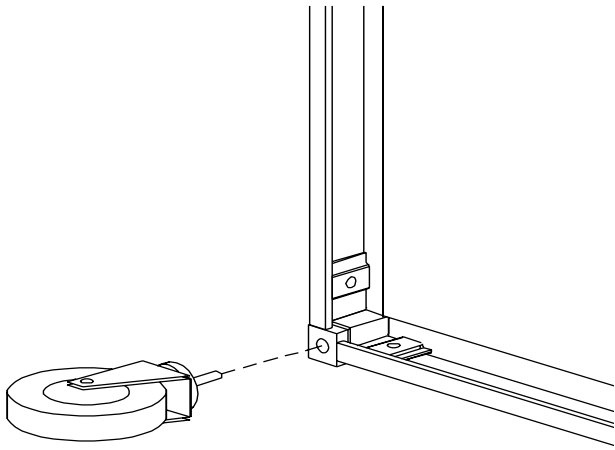

FIGURE 3
Push casters into each socket in the left front and rear legs as shown in **FIGURE 3**. To ensure casters are secure in sockets, a rubber mallet may be used to tap casters in place. Attach the caster wheels to the right front and rear legs using bolts (CC) and nuts (DD) as shown in **FIGURE 4**.